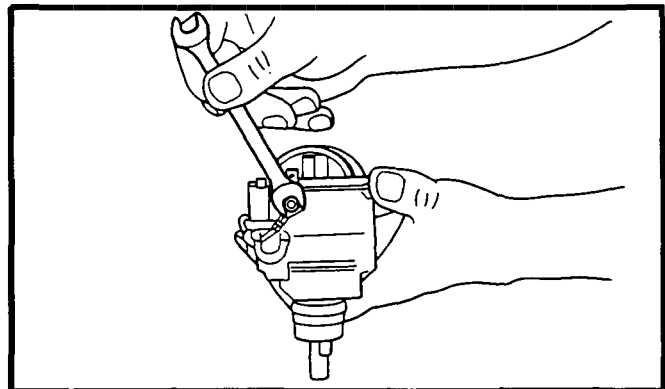

Figure 43. Terminal Nut Removal (3)
3. Remove the terminal nut, condenser wire, insulators and terminal. See Figure 43.